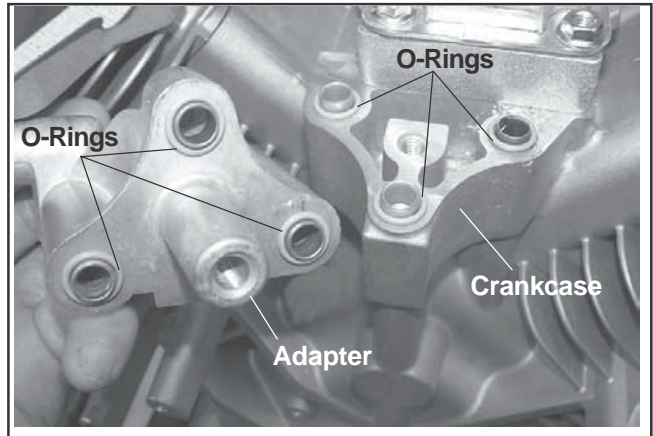

Figure 10-59. Installed O-Rings on Crankcase and Oil Filter Adapter.
1. Make sure all sealing surfaces are clean and the three dowel pins are in place on the crankcase adapter surface. Carefully install a new O-Ring around each of the dowel pins. Then install three new O-Rings onto the dowel pins of the oil filter adapter. See Figure 10-59.